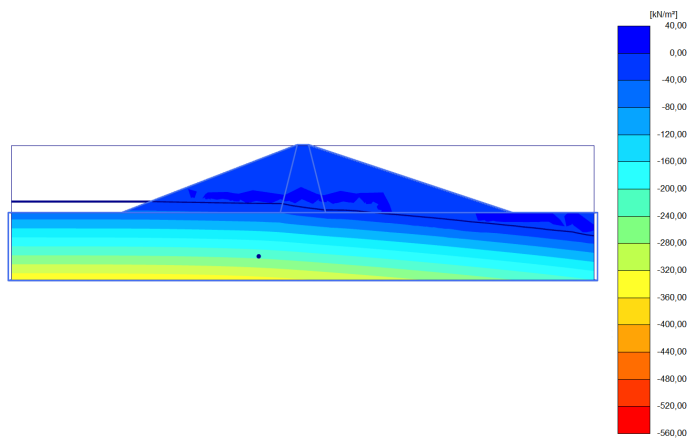

Figure 7.12 Pore water pressure distribution for low reservoir level (Phase_3)
- The situation with a low reservoir level (Figure 7.12).